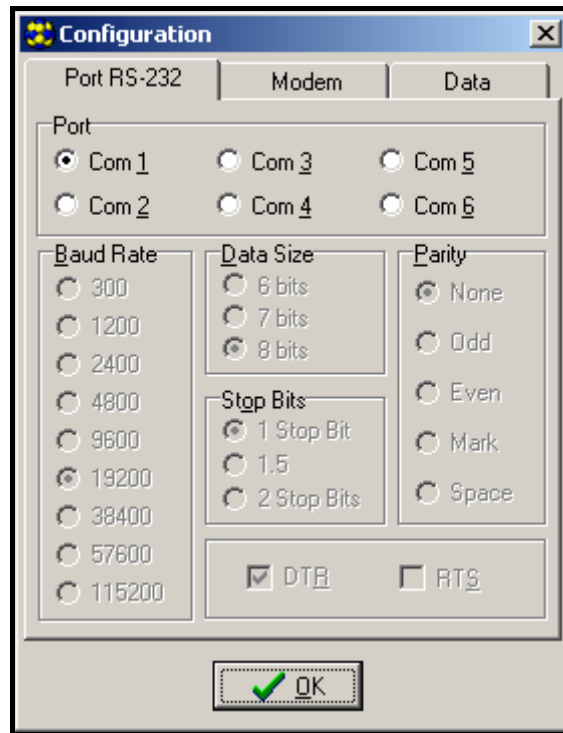

Figure 8.
2. Enter the options of module communication settings by clicking on the  icon (or through the **Communication→Configuration** menu) and select the port through which the computer connects with the module RS-232 port (see: figure 8).